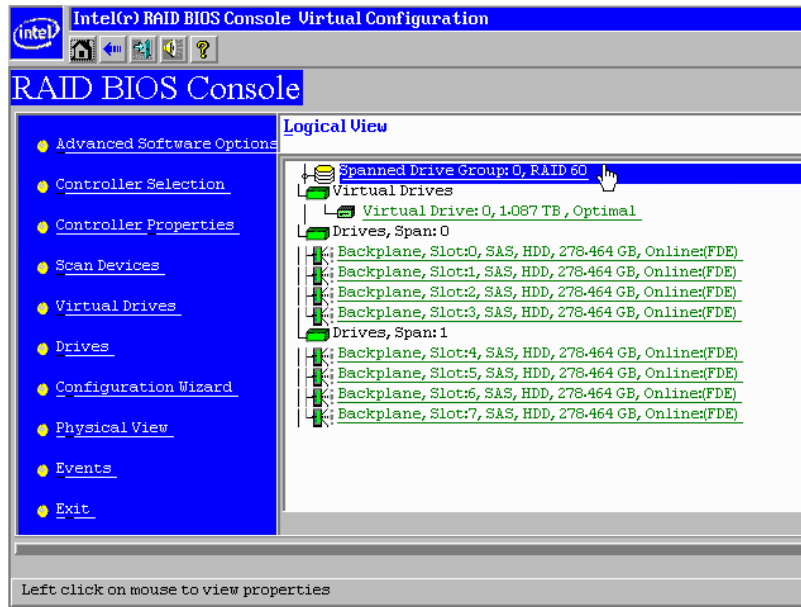

Figure 24. Intel® RAID BIOS Console 2 – RAID 60 example of main screen logical view
16. Click **Home** to return to the main screen. The RAID 10, RAID 50, or RAID 60 virtual drives are displayed. Figure 24 shows an example for RAID 10 virtual drives.